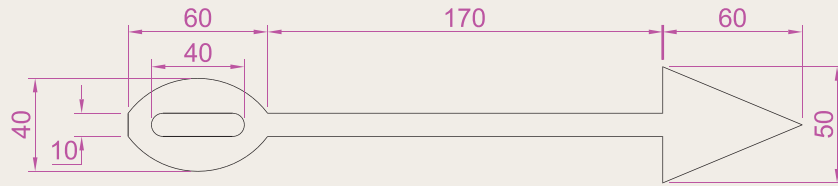

Fig. 3.54 Exercise 10
10. Construct the drawing shown in Fig. 3.54 using the **Line** and **Arc** tools. Then change all widths of lines and arcs to a width of 2 with **Polyline Edit**.